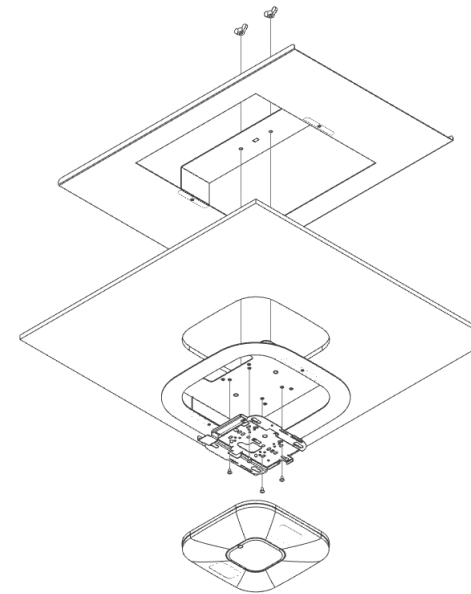

Figure 4 - AP and Trim Installation.
Step 3 – Attach the access point to the provided T-Bar Bracket using the manufacturer's clip/mounting plate (not provided). Place the trim around the access point and use the provided 1/4"-20 wing nuts and 1/4" lock washers to fasten the access point to the ceiling tile and back box (Figure 4).